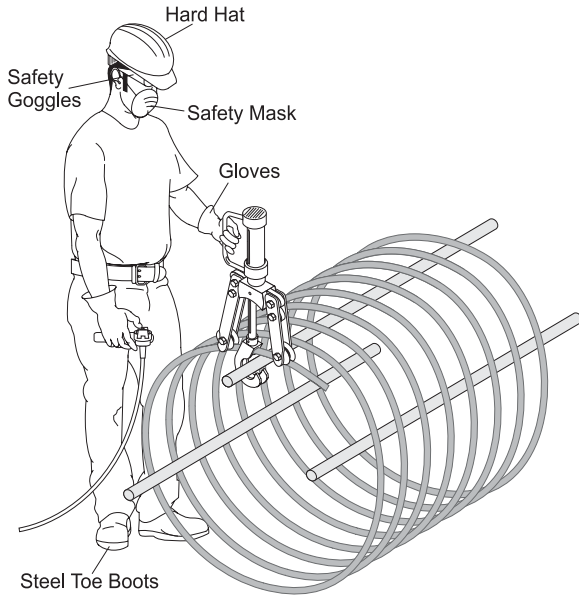

Figure 3. Rebar Spirals and Cages
- Can bend rebar up to 135° (Figure 3) and fits between spirals as close as 2 in. (5 cm.) on center.